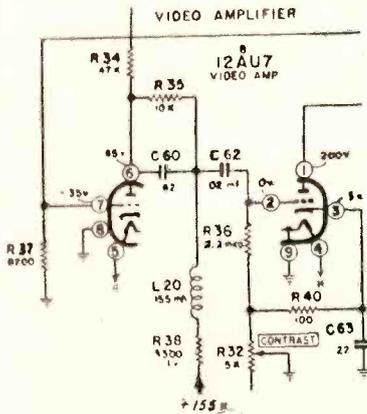

Fig. 1. Changes in the video amplifier circuit of the Gamble-Skogmo 94TV1-43-8940A.
**Code 13.** Capacitor C56 has been deleted. R32, contrast control, and R34 are now located as shown in Fig. 1. Additional changes in component location in this circuit are also shown in Fig. 1. The lead from R34 goes to pin 1 of tube 9-B, the agc amplifier. The lead from pin 1 goes to the junction of C64 and L21. R37 has been relocated, as shown in Fig. 1, and its value is changed from 1,000 ohms to 8,200 ohms. C61-A has been deleted. R35 and C60 have been added. R32, R38, R40, and C63 are changed to 5,000 ohms, 3,300 ohms, 100 ohms, and 22  $\mu\text{f}$ , respectively. Since the contrast control was moved to a new location after Code 12, the output connection of an oscilloscope or meter will not be connected across the contrast control, but now across resistor R37 (pin 7 of tube 7 to ground).